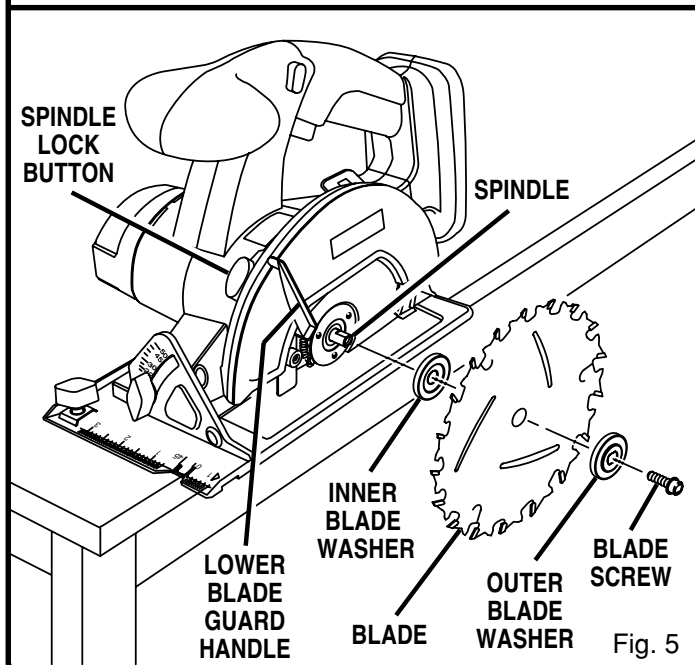

Fig. 5
- Depress spindle lock button and remove blade screw and outer blade washer. *See Figure 5.*
NOTE: The saw teeth point upward at the front of saw as shown in figure 5.
- Remove outer blade washer. *See Figure 5.*